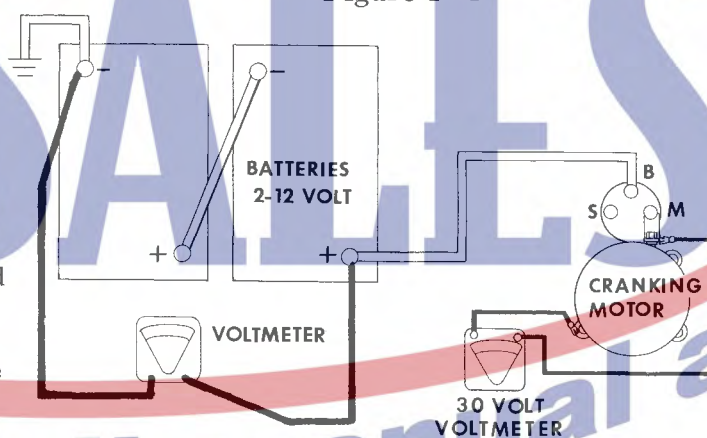

Figure F-5
1. Connect a volt meter (30 volt) between the positive and negative terminals of the batteries, Figure F-5.
2. Connect voltmeter (30 volt) between the cranking motor terminal and ground on cranking motor, Figure F-5.